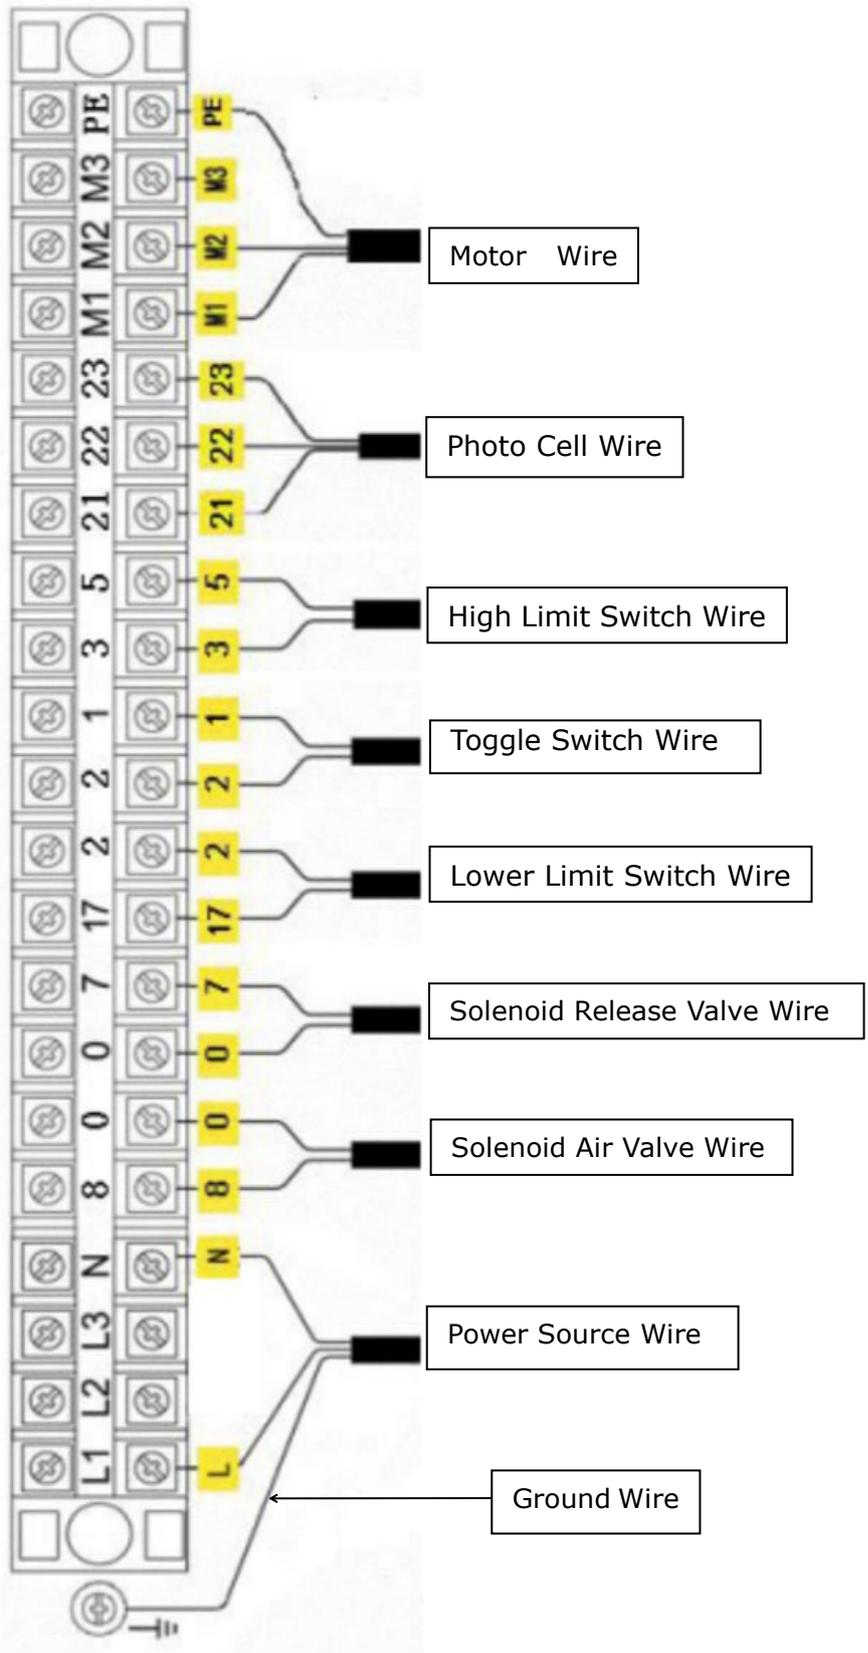

Fig. 13
2.1 Connect the power wire and limit switch wire according to the Wiring diagram (See Fig. 13).